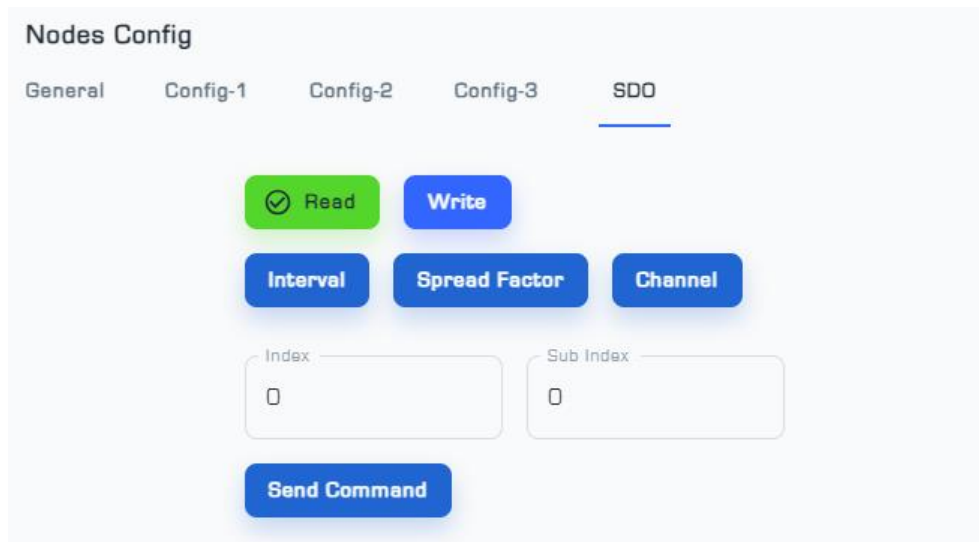

Figure 7: SDO Menu from Nodes Setting page
■ The SDO menu is used to change the parameters of Interval 1, Spread Factor, and Channel2 (Figure 7).